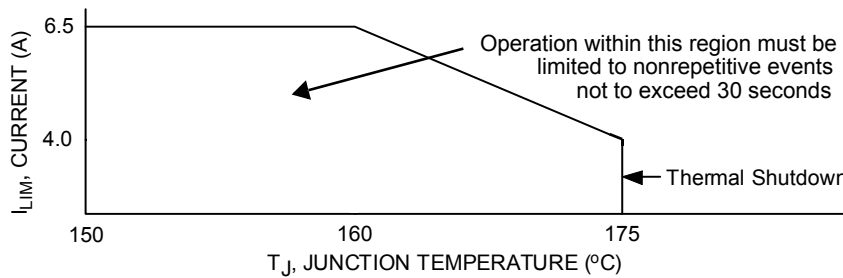
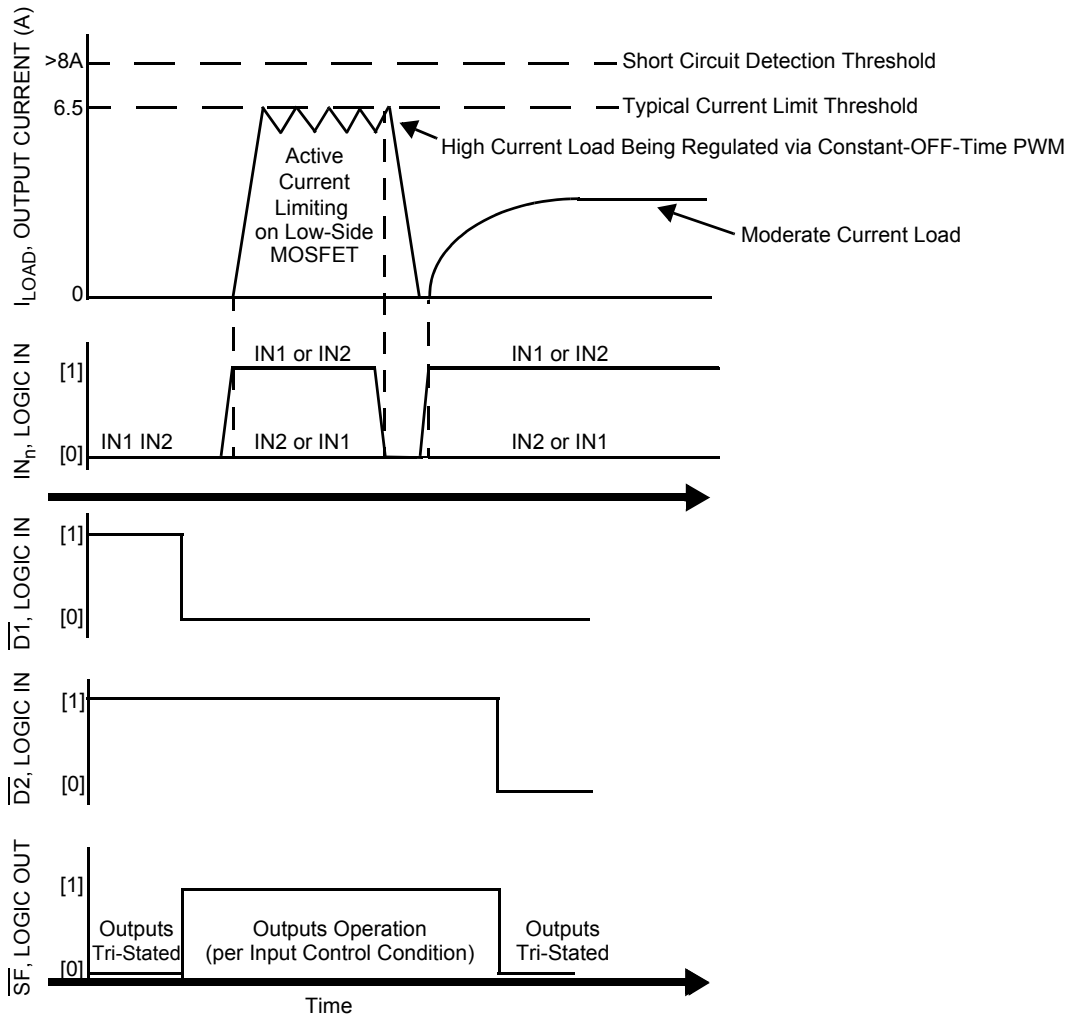

Figure 9. Active Current Limiting Versus Temperature (Typical)
Figure 10. Operating States
- 28 Load currents ramping up to the current regulation threshold become limited at the I_{LIM} value. The short circuit currents possess a di/dt that ramps up to the I_{SCH} or I_{SCL} threshold during the I_{LIM} blanking time, registering as a short circuit event detection and causing the shutdown circuitry to force the output into an immediate tri-state latch-OFF. See Figures 10 and 11, page 13. Operation in Current Limit mode may cause junction temperatures to rise. Junction temperatures above $\sim 160^\circ\text{C}$ will cause the output current limit threshold to progressively "fold back", or decrease with temperature, until $\sim 175^\circ\text{C}$ is reached, after which the T_{LIM} thermal latch-OFF will occur. Permissible operation within this fold-back region is limited to nonrepetitive transient events of duration not to exceed 30 seconds. See Figure 9, page 12.